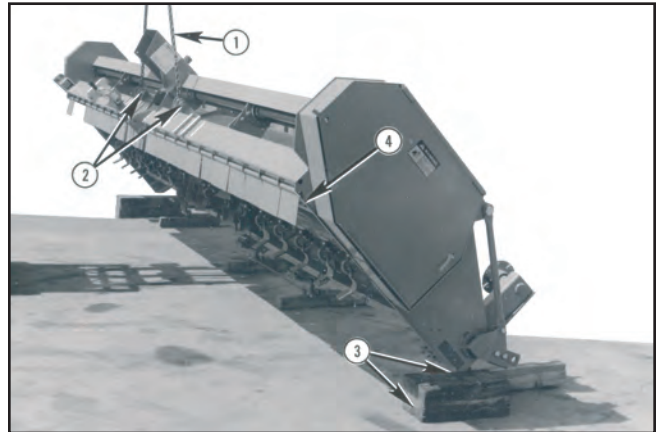

FIGURE 103
Irrespective of the above 2 offloading methods used, prepare to tilt the unit down by hooking an approximately 5’ long sling chain (1) securely around both 1” diameter hitch pins (2) the same as in Figure 103. Securely place solid (do not use hollow concrete) blocks under rear corners of each end of the unit as shown at (3). Blocks should be approximately 8” square.